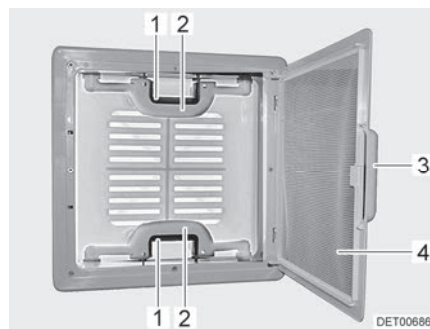

Fig. 18 Skylight with snap latch
- Pull on the handle (Fig. 18,3).
- Fold insect screen (Fig. 18,4) downward.
- Push the snap latch (Fig. 18,1) towards the inside of the skylight. At the same time use the handle (Fig. 18,2) to press the skylight upwards.
- Swing insect screen (Fig. 18,4) upwards until it latches in place.
- Using both handles (Fig. 18,2), pull down the skylight with force until the two snap latches (Fig. 18,1) lock into place.